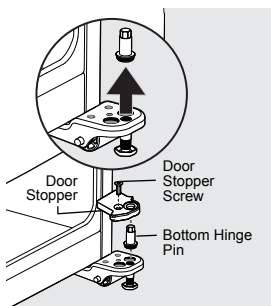

Figure 5
10. Remove the screw from the door stopper with a Phillips screwdriver (see Figure 5).
11. Unscrew the bottom hinge pin from the right-hand position using an adjustable wrench (see Figure 5).